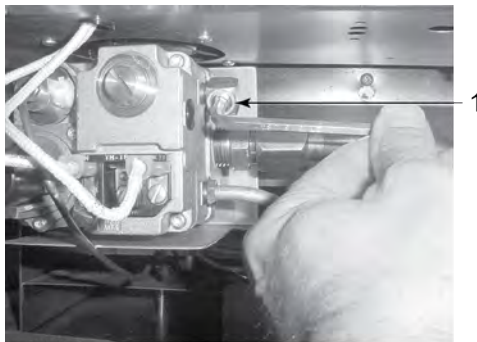
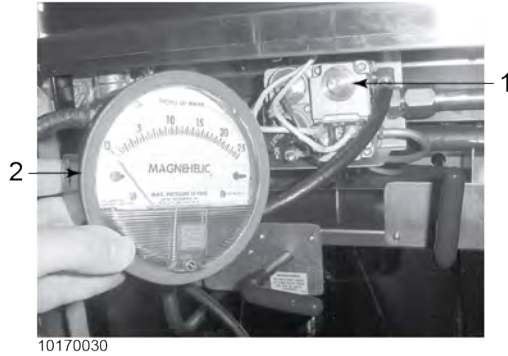

Figure 2-14 Pressure Tap
Figure 2-15 Adjusting Regulator
- 2) Attach a manometer (2), see Figure 2-15 Adjusting Regulator, page 37) to the gas control valve at the pressure tap (1), see Figure 2-14 Pressure Tap, page 36.
- 5) Rotate the adjustment screw (1) counterclockwise to increase the column indicated on the manometer or rotate clockwise to lower the column indicated, see Figure 2-15 Adjusting Regulator, page 37.
- 6) Turn gas valve knob to OFF and remove manometer (1).